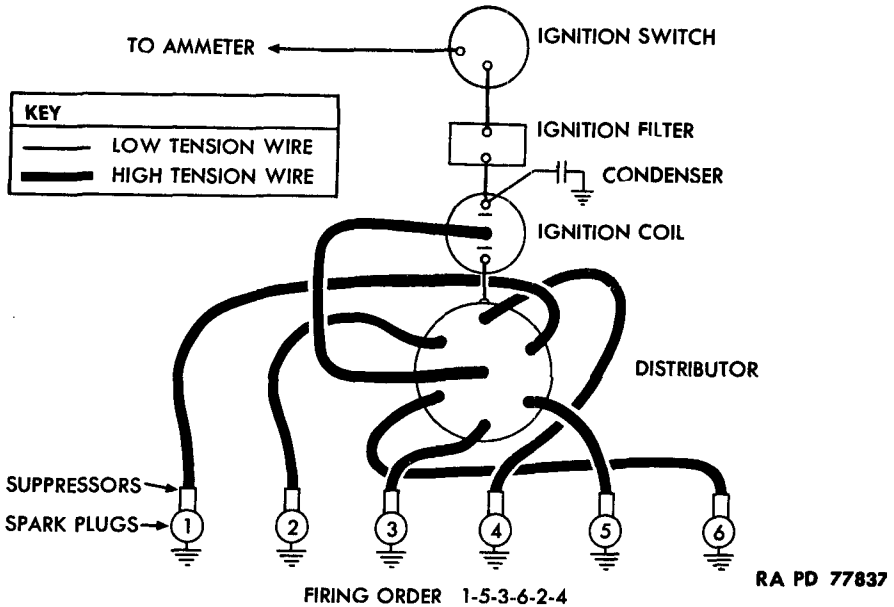

Figure 43 — Ignition System Wiring Diagram
79. DESCRIPTION (fig. 43).
a. **Description (fig. 43).** High tension wires are used to conduct high-voltage current from ignition coil to distributor and from dis-
(1) **REMOVE SPARK PLUG WIRE** (fig. 43). Loosen both wing screws, and lift floor board insert from floor board. Loosen both spring catches on open right-hand side of engine hood. Pull wire from distributor and spark plug, then pull wire from nipples which hold it in position between distributor and spark plug.
(1) **INSTALL SPARK PLUG WIRE** (fig. 43). Thread wire through nipples which hold wire in position between distributor and spark plug. Push ends of wire onto spark plug and into tower of distributor cap, respectively. Close engine hood and engage both spring catches. Install floor board insert, and tighten both wing screws.